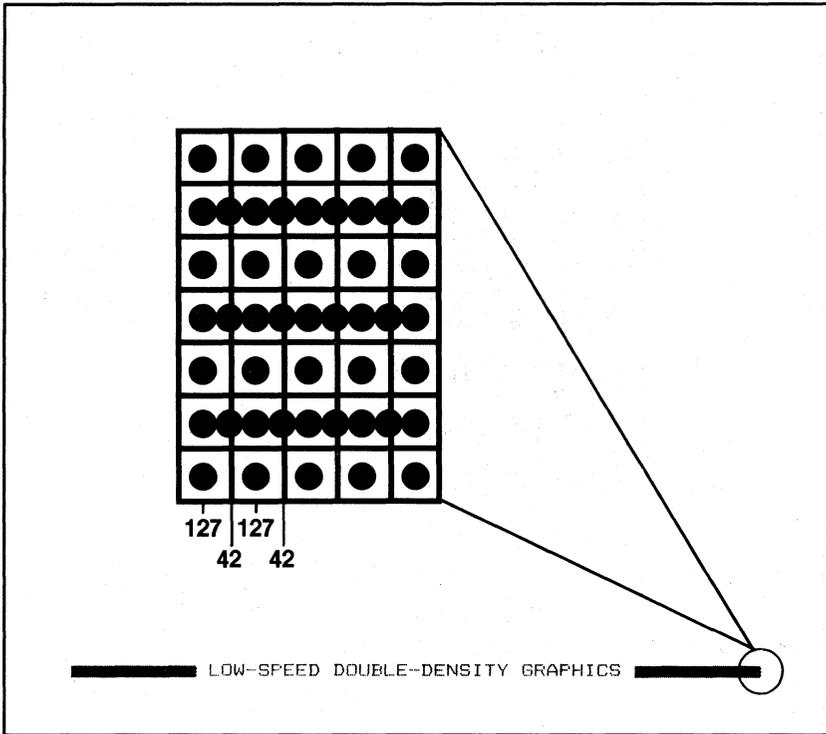

Figure 13-3. Dots do overlap.
Take note of the print speed when you RUN your program this time. It's the same density as in the previous mode, but printed at half the speed. A close look at Figure 13-3 reveals that this time the CHR\$(42) columns are printed as requested.